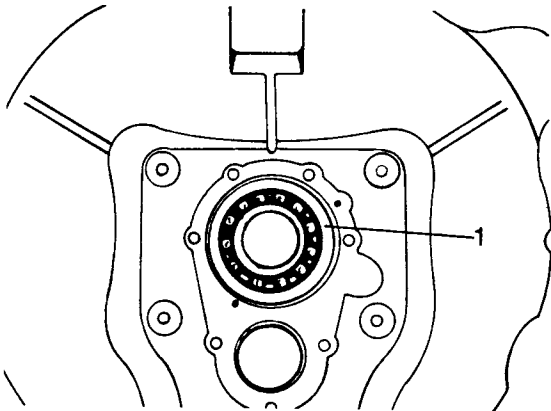

Fig H1.45
- (5) Refer to Fig H1.45. Remove the primary shaft bearing (1).